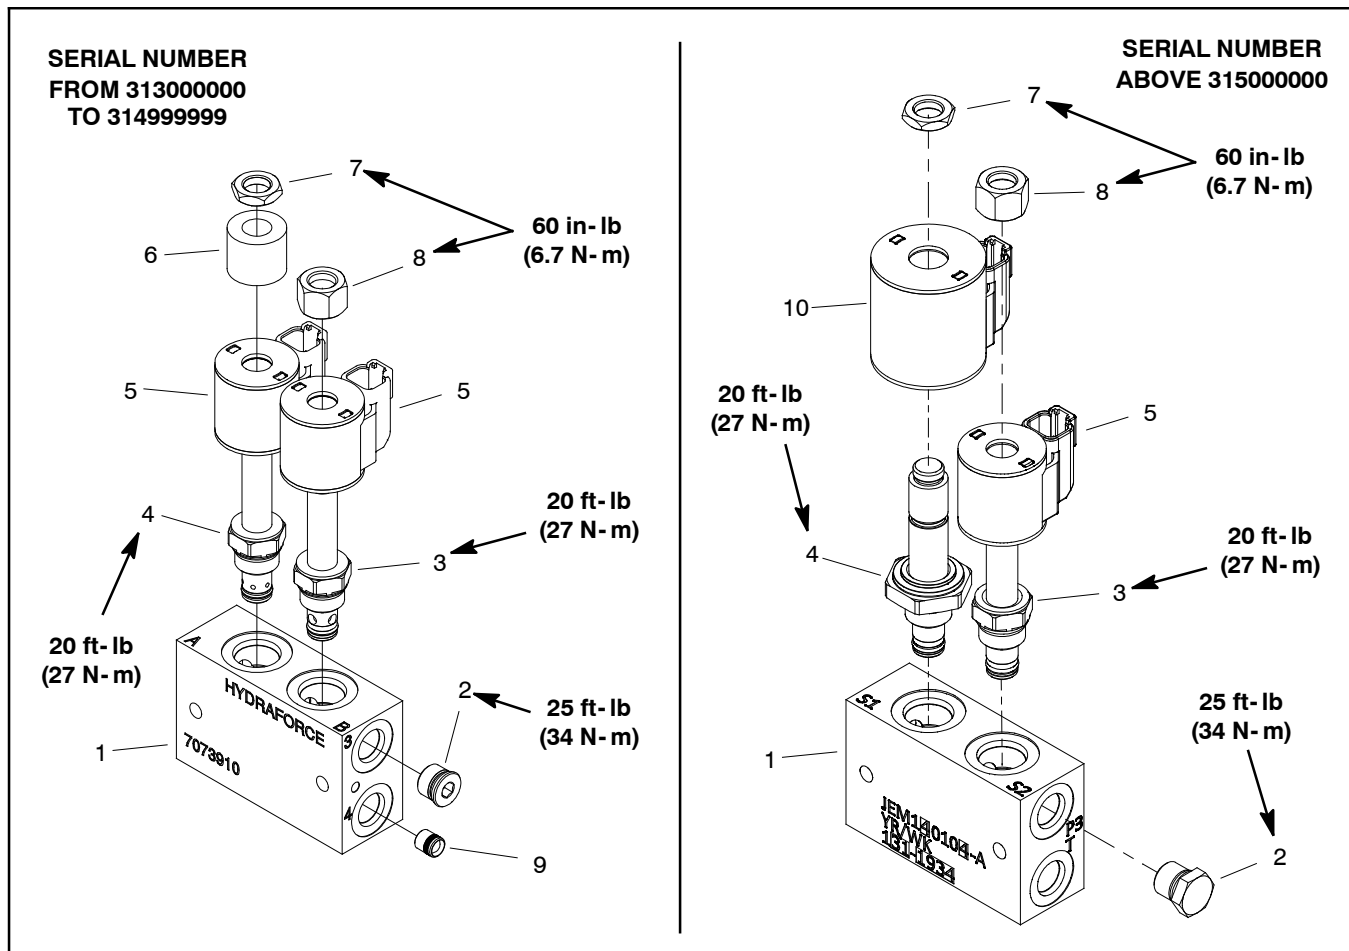

Figure 104
The lift control manifold on machines with a serial number from 313000001 to 314999999 is different than the manifold used on machines with a serial number above 315000000. Both manifolds are shown in Figure 104. Service for manifold valves, solenoid coils and plugs are similar on either manifold.
Deck Lift Manifold Service (Figure 104)
- D. Torque cartridge valve using a deep socket wrench to value identified in Figure 104.